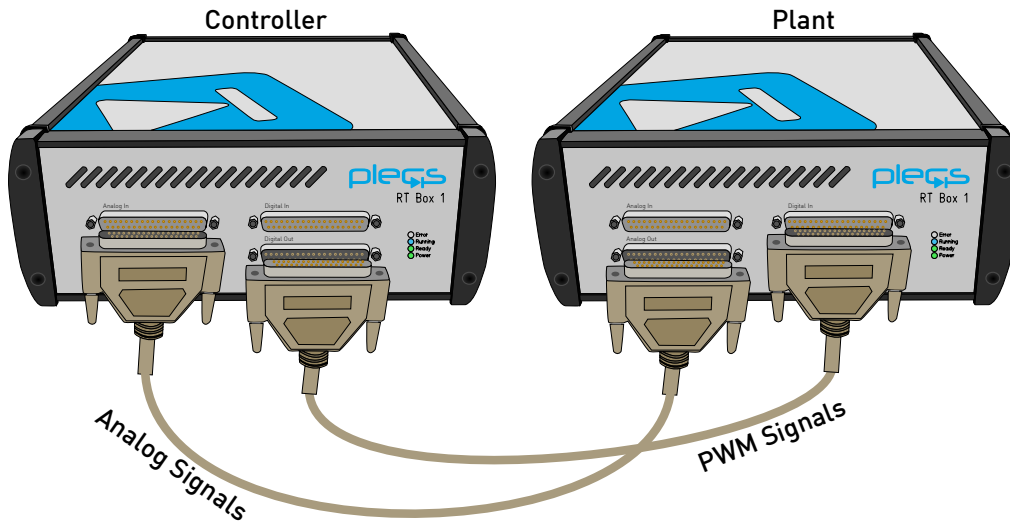

Figure 4: Loopback cable connection for the virtual prototyping setup
- 7 Connect the corresponding digital and analog I/O ports with a DSub cable as shown in Figure 4.
② What is the execution time for each RT Box?